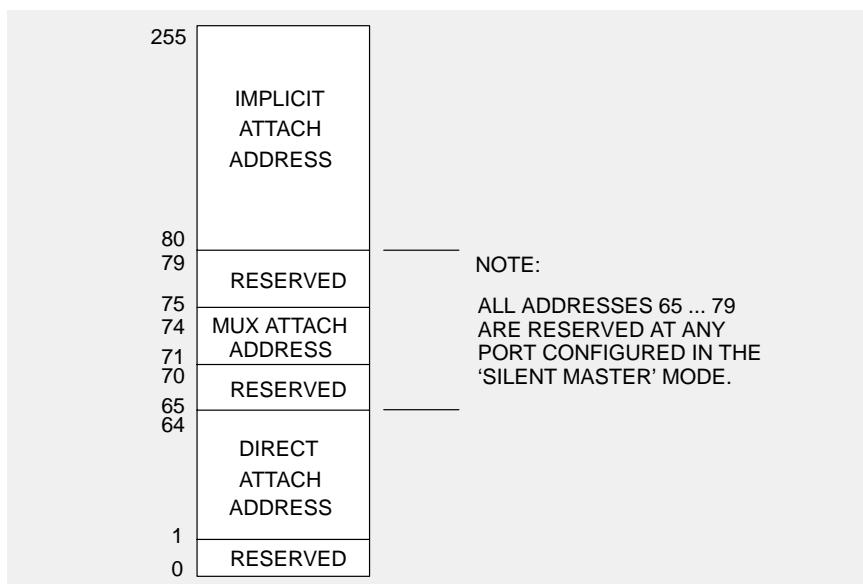

Figure 7 Bridge Multiplexer Address Conversion
*If a match is not found* in the table, conversion proceeds as in Figure 7.